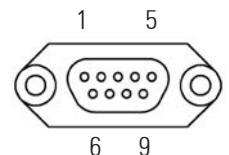

Fig. 23. RJ connector for RS-232 (9).
- ❑ As standard with only one RS-232 communication port in control panel through RJ connector of 6 or 8 pins **(9)** (see figure 23).